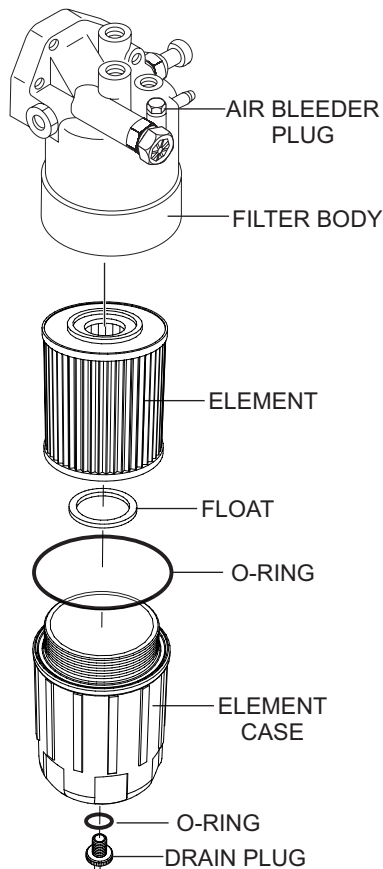

**Figure 66. Draining The Fuel Filter**
1. Loosen the air bleeder plug (Figure 66) on the fuel filter body.